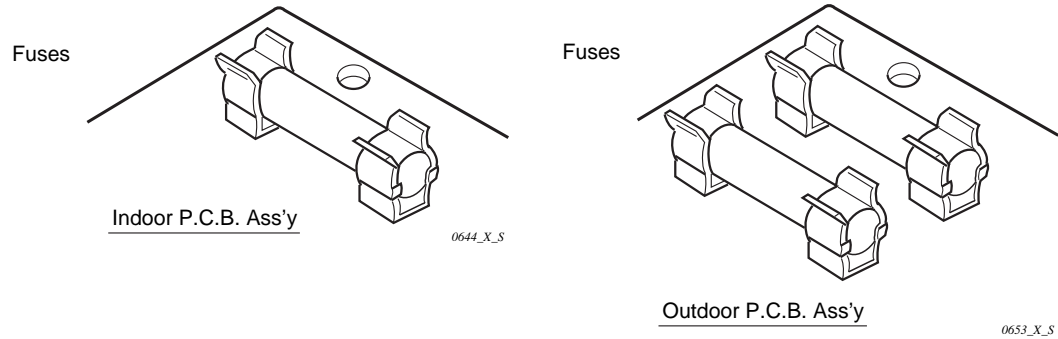

Fig. 46
⑩ **Fuse on indoor and outdoor P.C.B. Ass'y Both in indoor and outdoor unit**
- Remove the P.C.B. Ass'y from the electrical component box. Then pull out the fuse from the P.C.B. Ass'y. (**Fig. 46**)